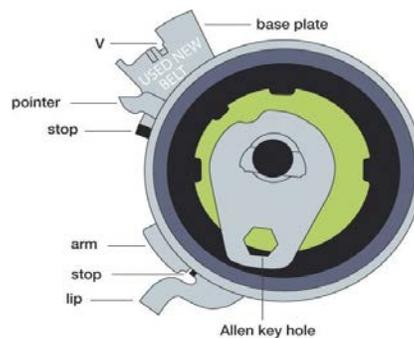

Fig. 1
6. Install new tensioner, hand tighten bolt. Tensioner lip has to be in oil pump housing slot. (Tensioner pointer has to sit behind water pump pulley). The allen keyhole has to be set in +/- 7 O'clock position (Fig. 1).